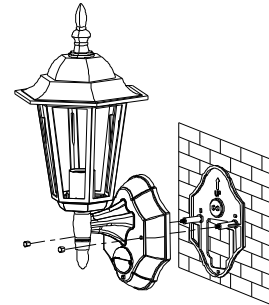

FIGURE 12
- (7) Place the front cover and secure it with the two screws provided. (FIGURE 12)